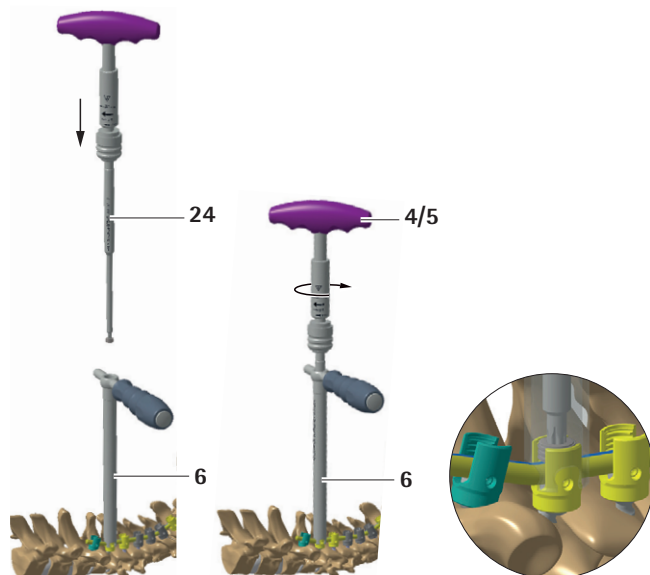

Fig. 40
- ▶ Insert the set screw torque shaft 24 into the cannulation of the counter torque handle 6 and carefully push down with light pressure into the socket of the set screw up to the stop, as shown on the left side of the image, see Fig. 40.
- ▶ Remove the set screw using the set screw torque / removal driver shaft 24 (SZ070R) with a torque limiting handle 4/5 (SZ005R/SZ006R) in combination with counter torque handle 6 (SZ008R), see Fig. 40.